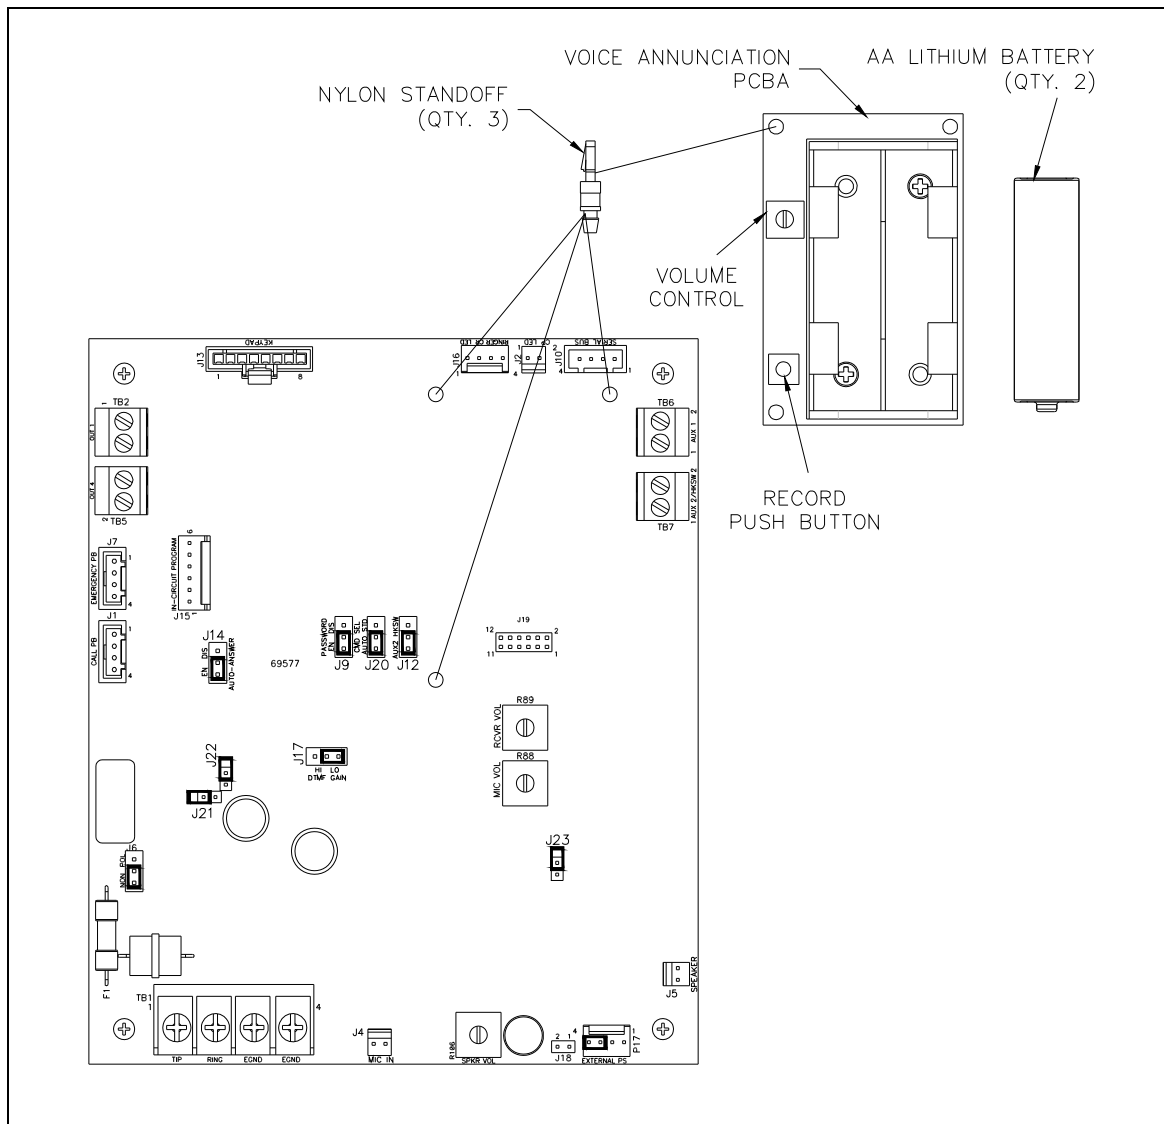

Figure 1. Installation of 12562-109 Voice Annunciation PCBA to Existing PBCA
1. Insert the three nylon standoffs on the existing Main PCBA in the locations shown in Figure 1.
2. Align the plugs on the Voice Annunciation PCBA standoffs with the Main PCBA as shown in Figure 1 and snap in standoffs.